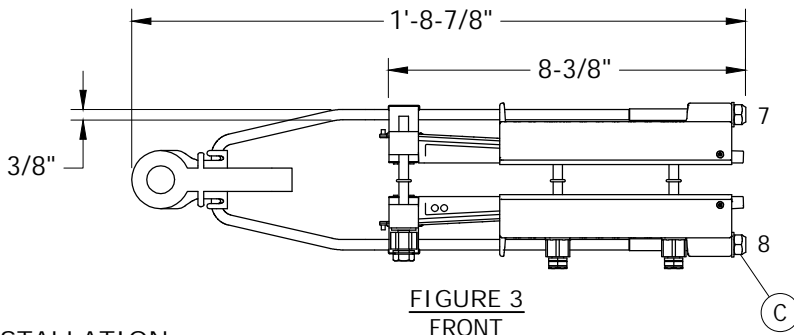

FIGURE 3
- (C) NUTS 7 AND 8 SHOWN IN FIGURE 3 ARE INTENDED TO BE USED DURING RIGGING TO MAKE SMALL SAG CORRECTIONS ONLY AFTER CLAMP BOLTS 1 THROUGH 6 ARE INSTALLED AND SHEARED PER NOTE (B). **TWO (2) THREADS MUST BE SHOWING PAST THE NUT.**